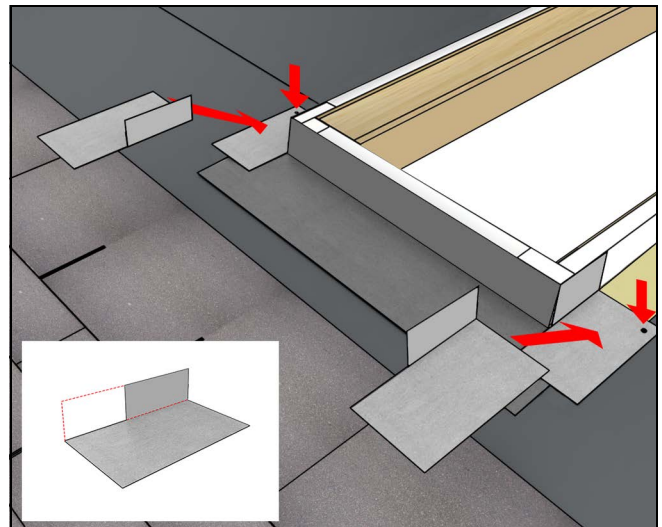

Figure 36
8. First step flashing placed a minimum of 4" beyond the sill of unit. *Note: remove material of vertical leg that extends beyond sill saddle.* See Figure 36.